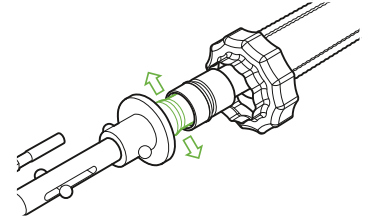

Fig. B10.2.5
6. Using the hydraulic pump, expand the pipe end (Fig. B10.2.5).